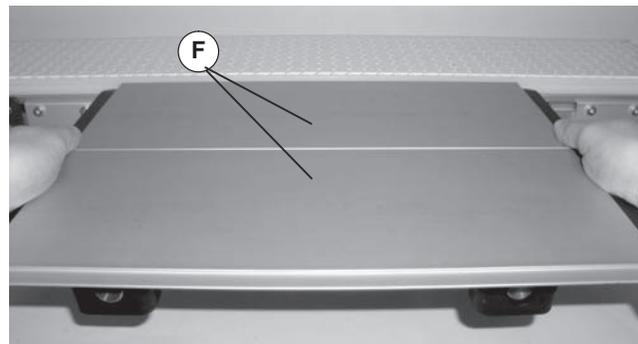

Figure 21
5. Push table (Figure 21, item F) into desired position, see Note on page 9 for examples.